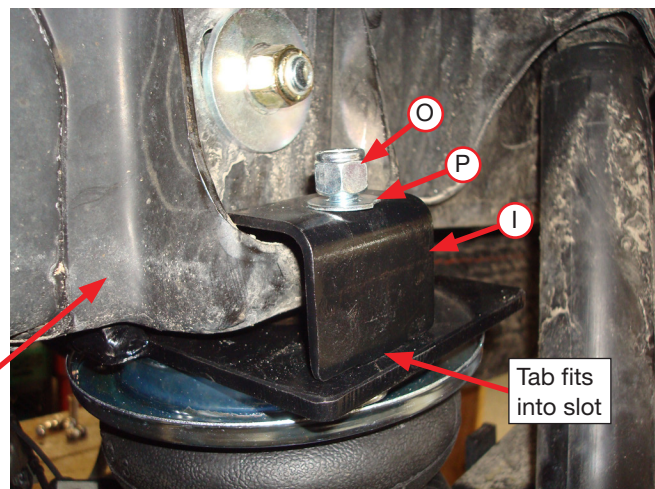

Fig. 13
7. Set the clamp bar (I) over the carriage bolt, ensuring the short edge fits over the stock jounce bumper strike plate bracket (on the frame). Also, ensure the tab on the clamp bar inserts into the small slot on the upper bracket (Fig. 13). Cap with a 3/8" flat washer (P) and nylon lock nut (O) finger-tight only at this time.